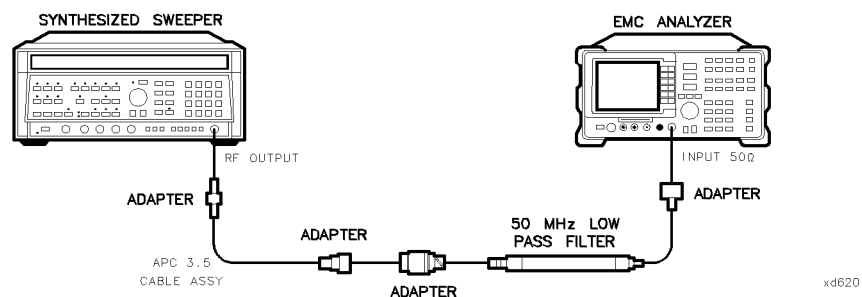

Figure 2-41. Second Harmonic Distortion Test Setup, HP 8593EM
2. Connect the equipment as shown in Figure 2-41.